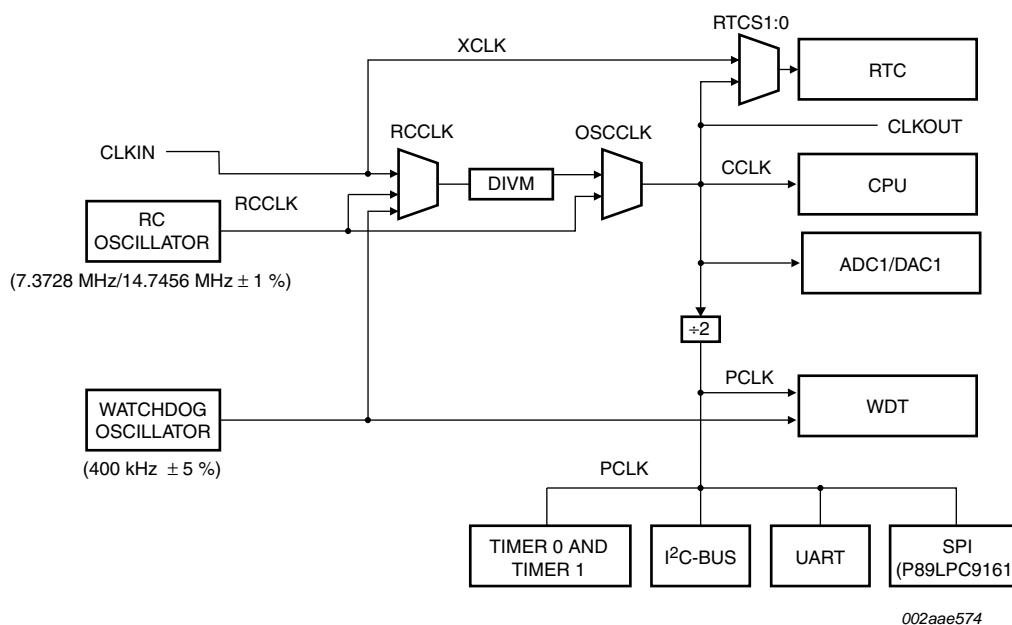

Fig 10. Block diagram of oscillator control
**OSCCLK** — Input to the DIVM clock divider. OSCCLK is selected from one of four clock sources (see Figure 10) and can also be optionally divided to a slower frequency (see Section 7.10 “CCLK modification: DIVM register”).